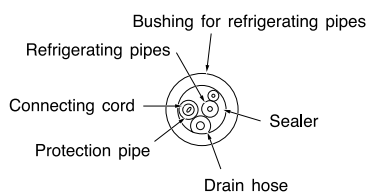

Fig. 7-1
- Arrange the penetrating part of the wall presentably with the bushing for refrigerating pipes and sealer which is belonging to the pipe set as shown in Fig. 7-1.